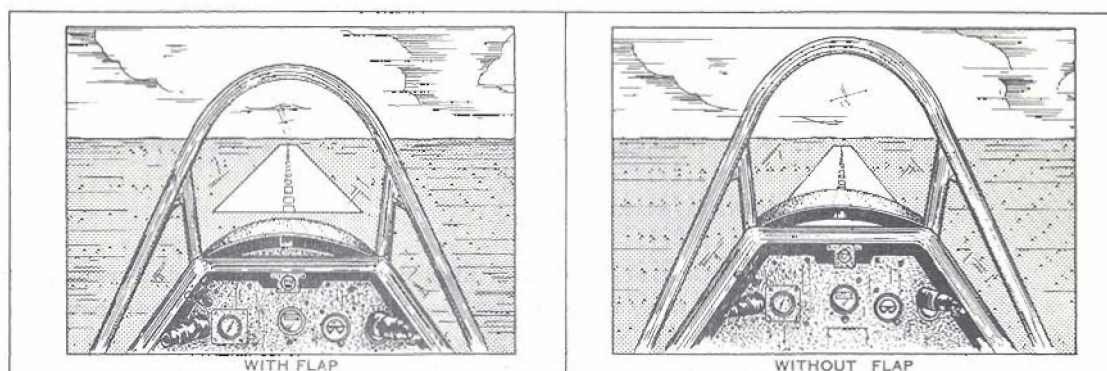

Figure 1: The Power-off Approach Attitude
(3) When you are satisfied that the gliding attitude is correct and that you have enough flap down, concentrate on making a good three-point landing without worrying about the spot. Your actions on the base leg and during the early part of the final approach regulate the location of the landing. During the final stages, therefore, it is better to concentrate on making a good three-point landing two hundred feet from the spot, then to make a bad landing on the spot. After landing you should remember the techniques used and, having analysed your faults, you should try again.
(4) If the wind is light, or if you have turned onto the base leg too soon, you should close the throttle sooner, and vice versa. When there is a cross-wind blowing, you should use the approach techniques described in Article 6.06 to make allowances for drift. The use of flap on the base leg is optional, but should not exceed 15 degrees; a requirement for more flap means that your judgement in turning onto the base leg has been poor, therefore you should delay the turn on the next circuit. You should not lower flap when turning onto the final-approach leg. Figure 1 has been prepared to illustrate the approximate approach attitude, full flap landing versus flapless landing.